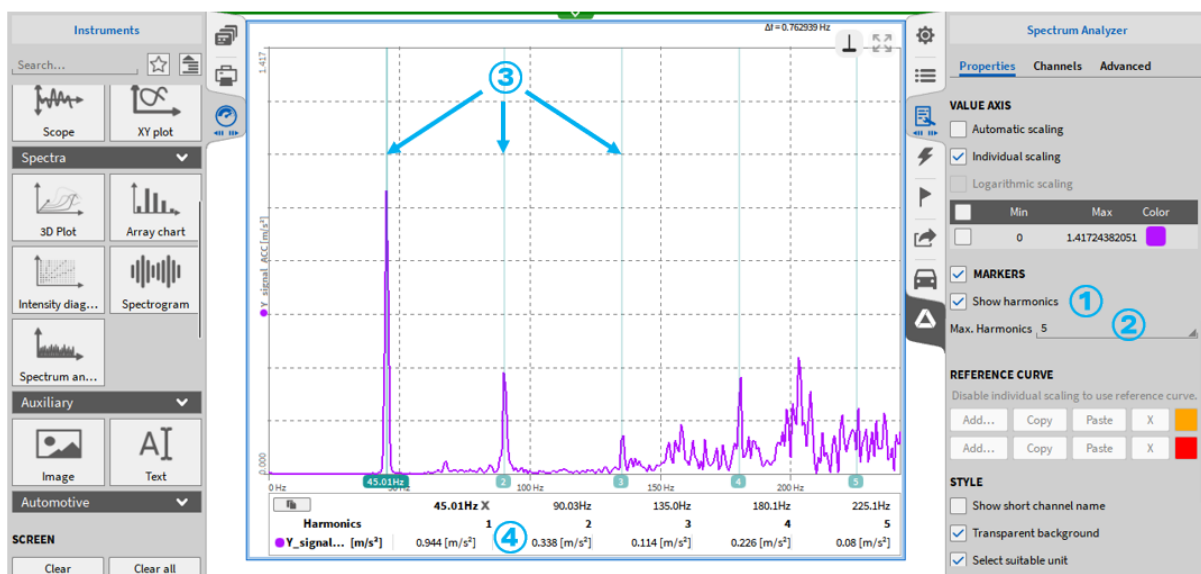

Fig. 8.52: Usage of Harmonics Cursors
Harmonics Cursors can be displayed by checking *Show Harmonics* (see ① in Fig. 8.52). The number of harmonics can be set from 1 to 10 (see ② in Fig. 8.52). Harmonics are marked with cursors (see ③ in Fig. 8.52) and the harmonics amplitude is displayed at the instrument's bottom (see ④ in Fig. 8.52).